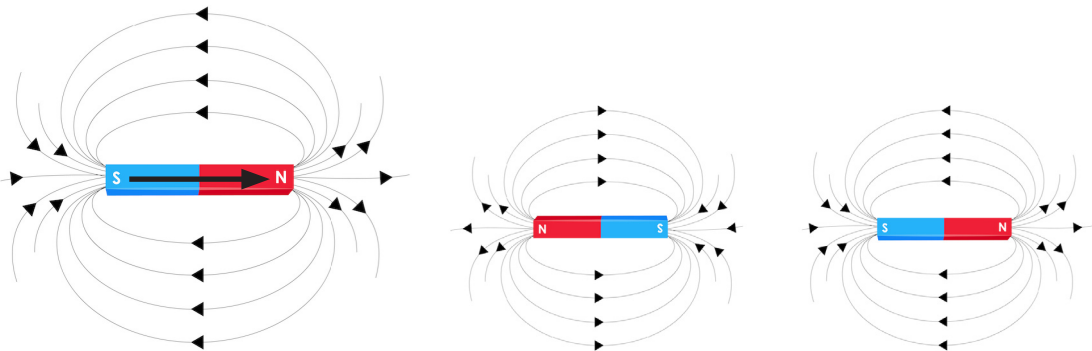

Figure 2.9. Question 2
2. Draw the arrows in the magnets of the middle and right image in figure 2.9 (the left image is shown as an example).
3. See figure 2.9. Do the middle and right magnet attract or repulse each other? And if you would rotate them both so the red ends are pointing to each other?